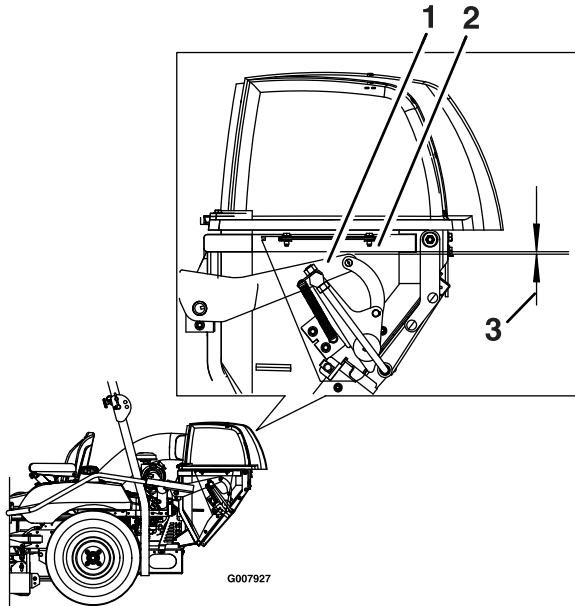

Figure 9
1. **Arm Position:** The left and right bellcrank arms control the timing of the left and right door opening mechanisms. The ends of these arms must be positioned equally from the upper frame tube for proper actuation. Check this distance with the door closed. If adjustment is necessary, loosen the allen head clamping screw on the hub of the right hand arm. Position the arms so that their ends are the same distance from the upper frame tube. Tighten the clamping bolt to hold them in this position (see Figure 9).